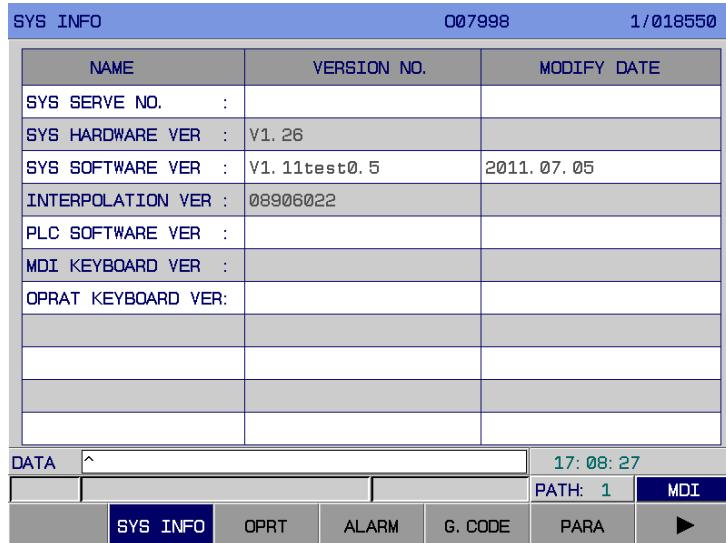

Fig. 3-9-1
1. System information page In <HELP> page, press soft key **【SYS INFO】** to enter system information page (See Fig. 3-9-1):